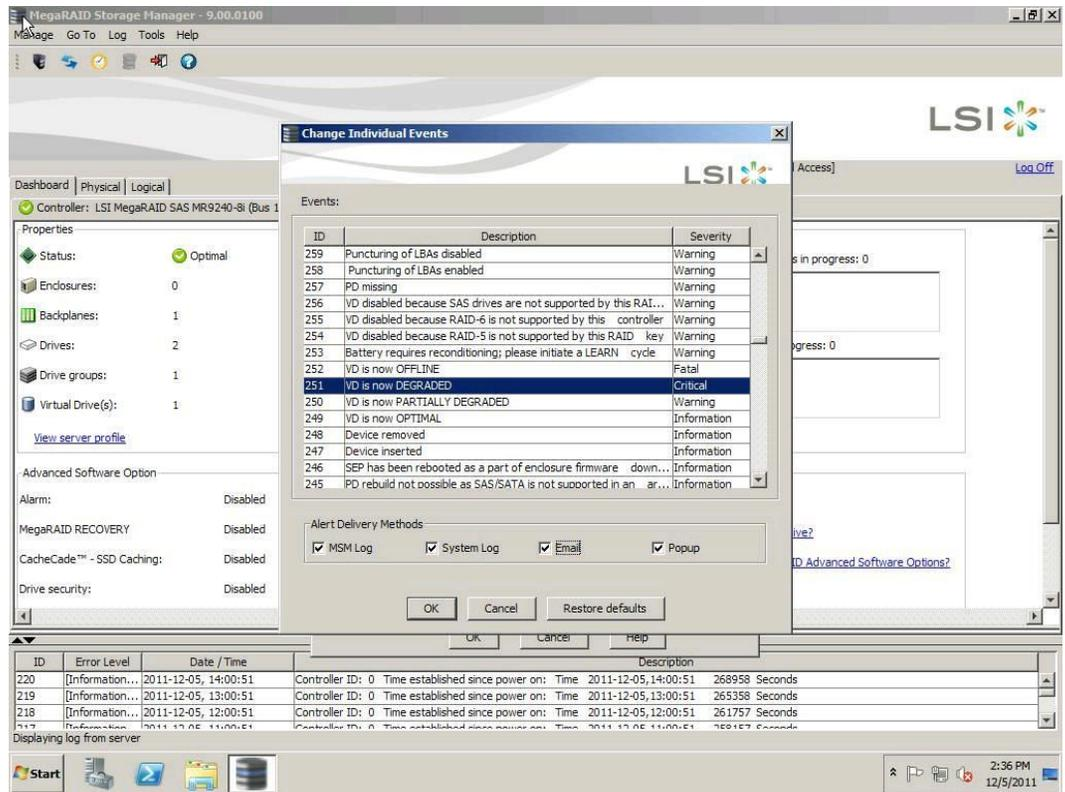

Figure 13. Enabling email alerts for an event.
- b. To enable email alerts for an individual event, click Change Individual Events... to display all events. In our tests, we generated an email alert for when a virtual drive becomes degraded (Event ID 251). To enable email alerts for an event, select that event ID, check the Email check box, and click OK. (See Figure 13.)